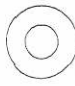

**Fig. 142**
□ **Fig. 142** Turn the wheel over and install the inside half of the #6854Y front wheel (which has the larger center hole). Make sure the screw holes on both wheel halves line up before you insert the back half of the wheel. Finish the second tire and wheel.